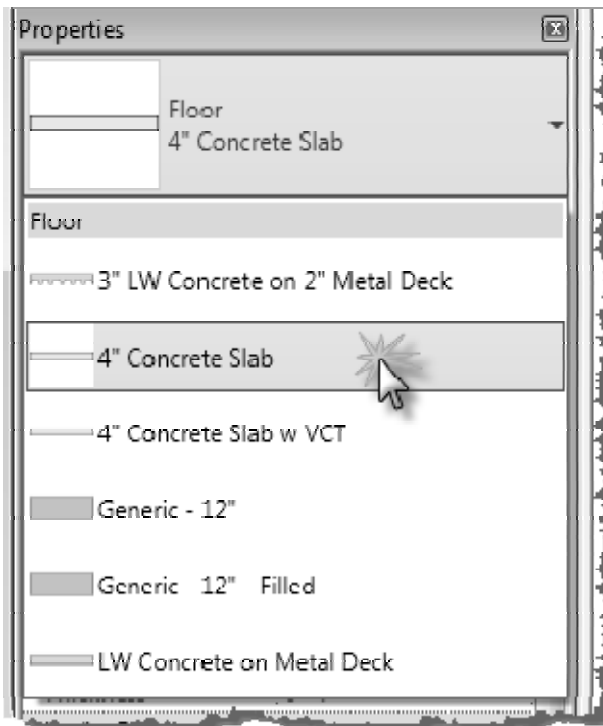

FIGURE 7-3.1 Floor tool; type selector
5. Set the *Type* to **4" Concrete Slab** (if not already); see Figure 7-3.1.